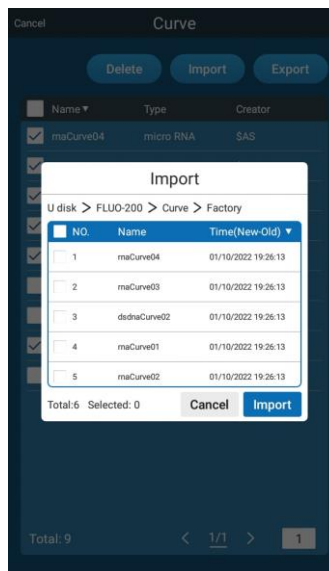

Fig 5.6.05 Importing Curve(s)
- : Import curve(s) from a USB drive to the instrument (Fig. 5.6.05).